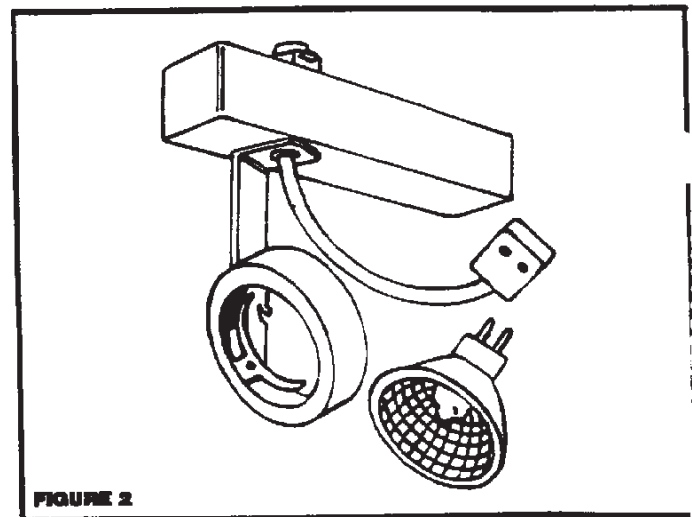

FIGURE 2
When using Halo-2 Lampholder with the Miniature Power-Trac System (L650, L651, L652, L653) adjustable contact must be in circuit #1 (DOWN) position. (Figure 2)
When using Halo-2 Lampholder with the Halo-2 Power-Trac System (L640, L641, L642, L643) adjust the contact position of each lampholder to the desired circuit—circuit #1 (DOWN) or to circuit #2 (UP). (Figure 2,3)
**STEP 3** Unplug lamp by pulling straight out. DO NOT TWIST! (Figure 2) DO NOT TOUCH THE BULB INSIDE THE LAMP REFLECTOR.